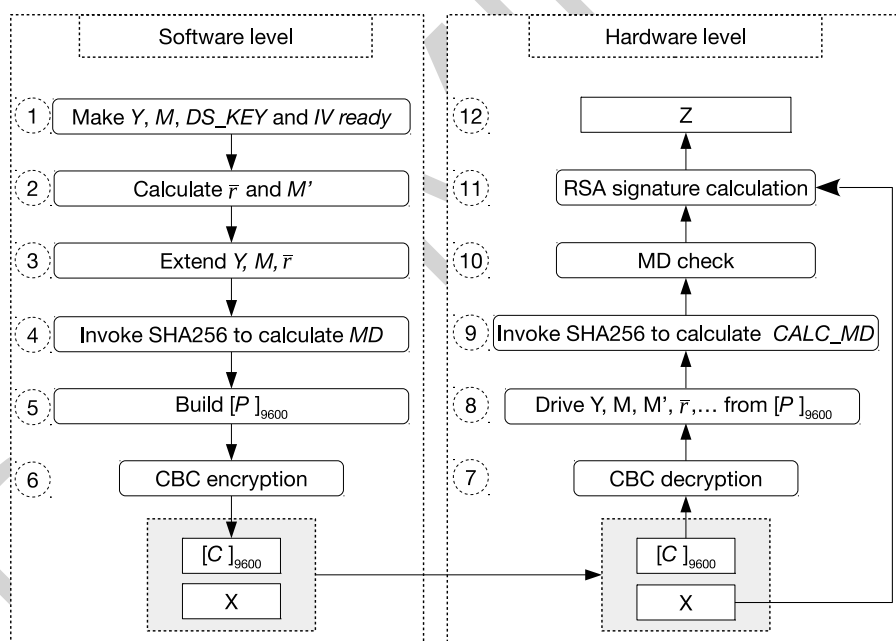

Figure 21-1. Software Preparations and Hardware Working Process
If users want to use the DS module for digital signature, the software and hardware must work closely to implement this successfully, and the software needs to do a series of preparations, as shown in Figure 21-1. The left side lists preparations required by the software before the hardware starts RSA signature calculation, while the right side lists the hardware workflow during the entire calculation procedure.
1. The software preparation (left side in the Figure 21-1) is a one-time operation before any signature is calculated, while the hardware calculation (right side in the Figure 21-1) repeats for every signature calculation.
You need to follow the steps shown in the left part of Figure 21-1 to calculate C . Detailed instructions are as follows:
1. Decryption: Step 7 and 8 in Figure 21-1
The decryption process is the inverse of Step 6 in figure 21-1. The DS module will call AES accelerator to decrypt C in CBC block mode and get the resulted plaintext. The decryption process can be represented by $P = \text{AES-CBC-DEC}(C, DS_KEY, IV)$, where IV (i.e., $[IV]_{128}$) is defined by you. $[DS_KEY]_{256}$ is provided by HMAC module, derived from $HMAC_KEY$ stored in eFuse. $[DS_KEY]_{256}$, as well as $[HMAC_KEY]_{256}$ are not readable by users.
2. Check: Step 9 and 10 in Figure 21-1
The DS module will perform two checks: MD check and padding check. Padding check is not shown in Figure 21-1, as it happens at the same time with MD check.
3. Calculation: Step 11 and 12 in Figure 21-1